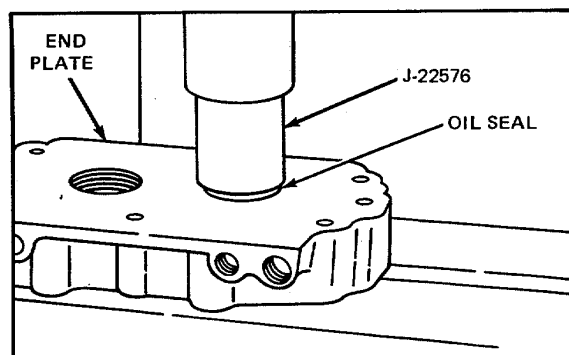

Figure 6. Installing Lip-Type Oil Seal in End Plate
- b. Lubricate the outer diameter of the seal and, using installer J 22576, press the seal (lip facing down) into the counterbored hole until the shoulder on the installer contacts the end plate (Fig. 6).